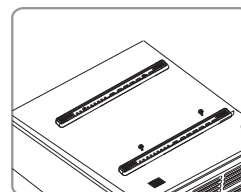

Figure 12
1. Install the multifunctional arm⑩ on the projector. Figure 12